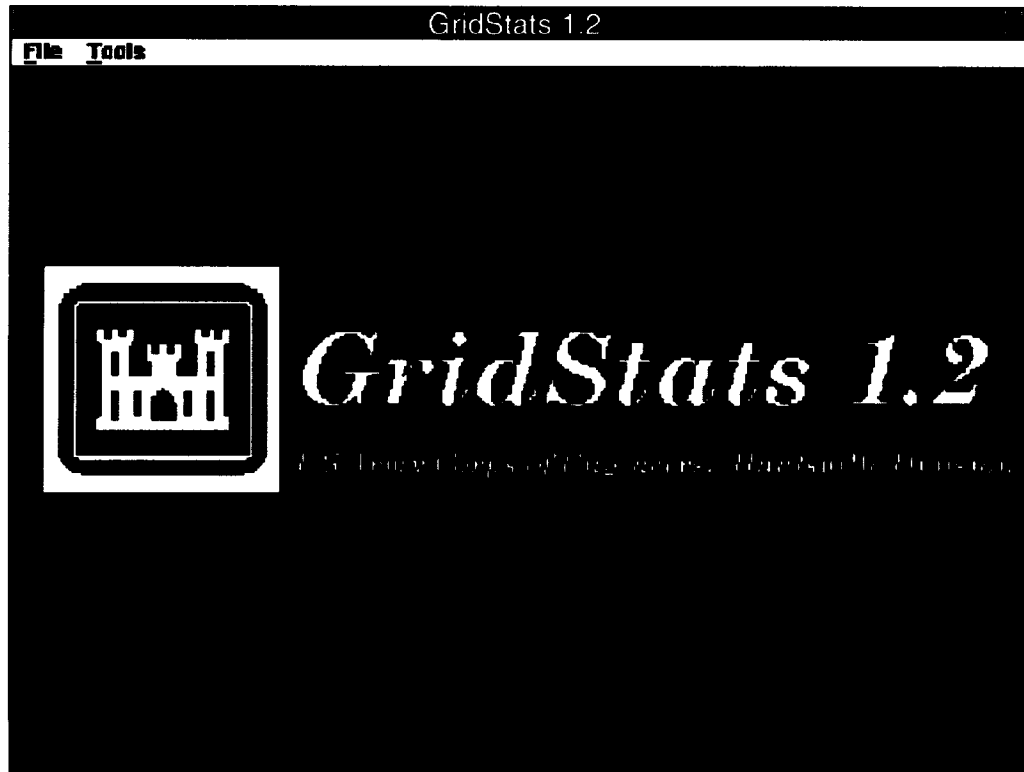

Figure 2.3-1. GridStats Main Window
- * The window shown in Figure 2.3-1 will be displayed.